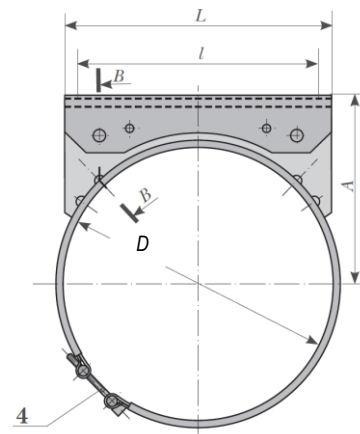

Fig. 36. Fixing clamp of floating type XП
- XП type fixing clamp (Fig. 36).